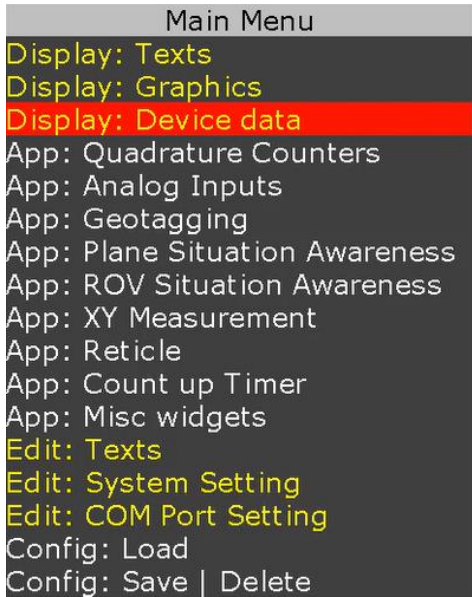
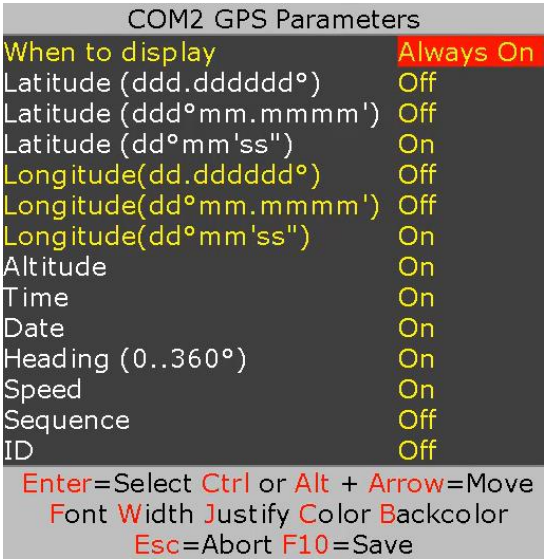
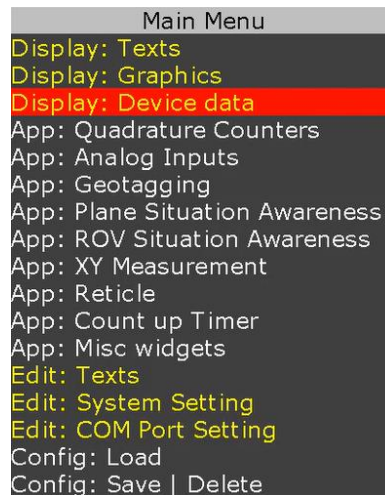
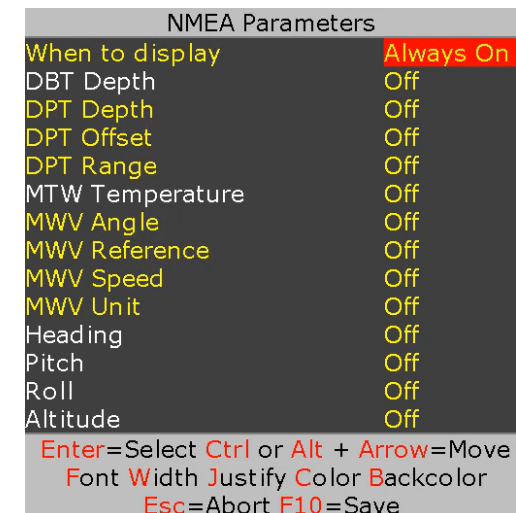

Figure 12
Figure 14
Figure 15
Figure 17
To customize the sample file to meet your needs, follow Figure 12 - Figure 14.
While in Figure 14, use ↑ to select desire GPS parameter. Press ↓ to select "On". Use shortcuts keys to format the text as described below:
- For above messages, just configure COM_port and PROTEUS is ready to receive messages & manage your visual data. Follow Figure 15-Figure 17 and Figure 12 - Figure 14 to display NMEA parameters.